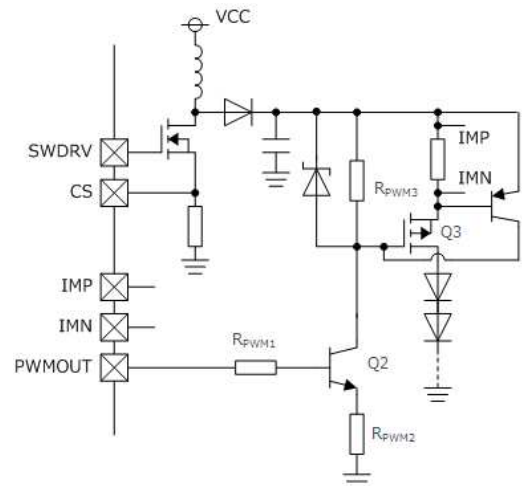

Figure 22. LED Anode Ground Fault Protection Attaching Externally Circuitry
- ① UVLO is cancelled when VCC > 4.25 V (Typ).
- ② IMP-IMN terminal voltage rises to become 200 mV.
- ③ Switching Duty gradually expands and is stabilized at IMP-IMN of 200 mV.
- ④ Output voltage is stabilized.
- ⑤ LED Anode-GND short-circuits.
- ⑥ It becomes IMP-IMN ≥ 0.3 V (Typ) and performs output Short circuit detection (SCP) and outputs SWDRV / PWMOUT = Low. Discharges an SS terminal and the FAIL terminal changes into High ⇒ Low.
- ⑦ When SCP is detected, capacitor connected to TDISC will be charged (11 μA (Typ)) until VTDISC becomes 1.0 V (Typ).
- ⑧ Once SCP detection is released at VTDISC ≥ 1.0 V (Typ), capacitor connected to TDISC starts to discharge, and SS charging, SWDRV / PWMOUT operate normally.
- ⑨ If SCP condition VTDISC ≥ 0.3 V (Typ) is fulfilled restarts from condition ⑥ operates normally if SCP condition is not fulfilled.
Operation described above is performed in the LED anode ground short fault. However, even if SCP is detected by the potential difference of IMP pin and the IMN pin, there is delay time of internal circuit after detection and require time before PchMOS is off. Therefore allowable current of PchMOS may be exceeded transiently. (It may be exceeded in ⑧ of the timing mentioned above.) Therefore, like Figure 22, PMOS can be turned off on an expressway by adding PNP Tr externally.